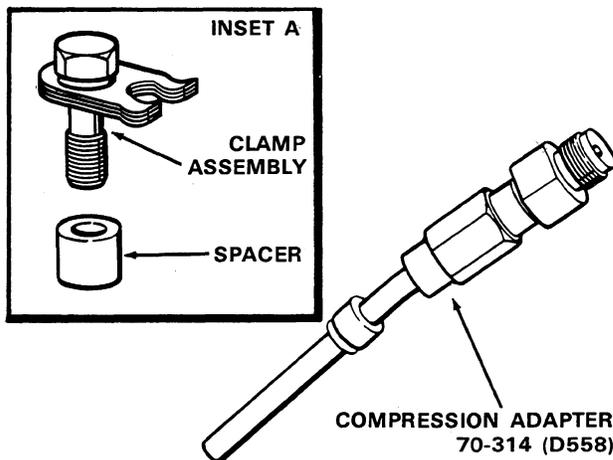
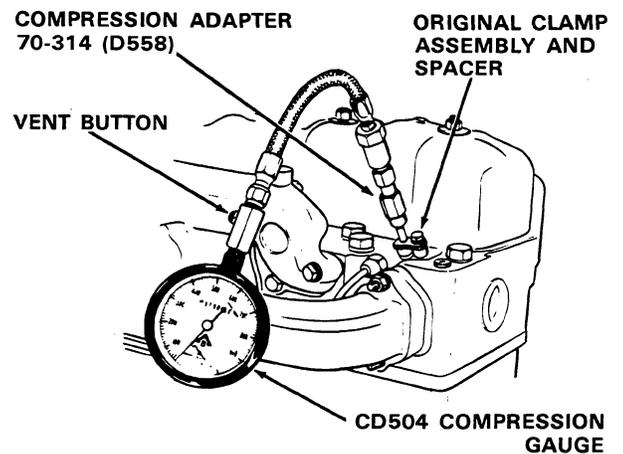

Figure 1
Figure 2
- Clean the injector bores of loose carbon and residue. Replace the compression seal in the injector bore of the cylinder to be checked and install a Bacharach 70-314 (D-558). Compression Gauge Adapter, Figure 1. Secure with an original injector clamp assembly and spacer, Figure 1, Inset A. Tighten bolt to 20 ft. lbs. Connect Case No. CD-504 Compression Gauge to the adapter, Figure 2.
NOTE: Take several compression reading on each cylinder. This is done by pressing the vent valve button, Figure 2, to relieve gauge pressure. When the button is released the gauge will again indicate compression pressure.